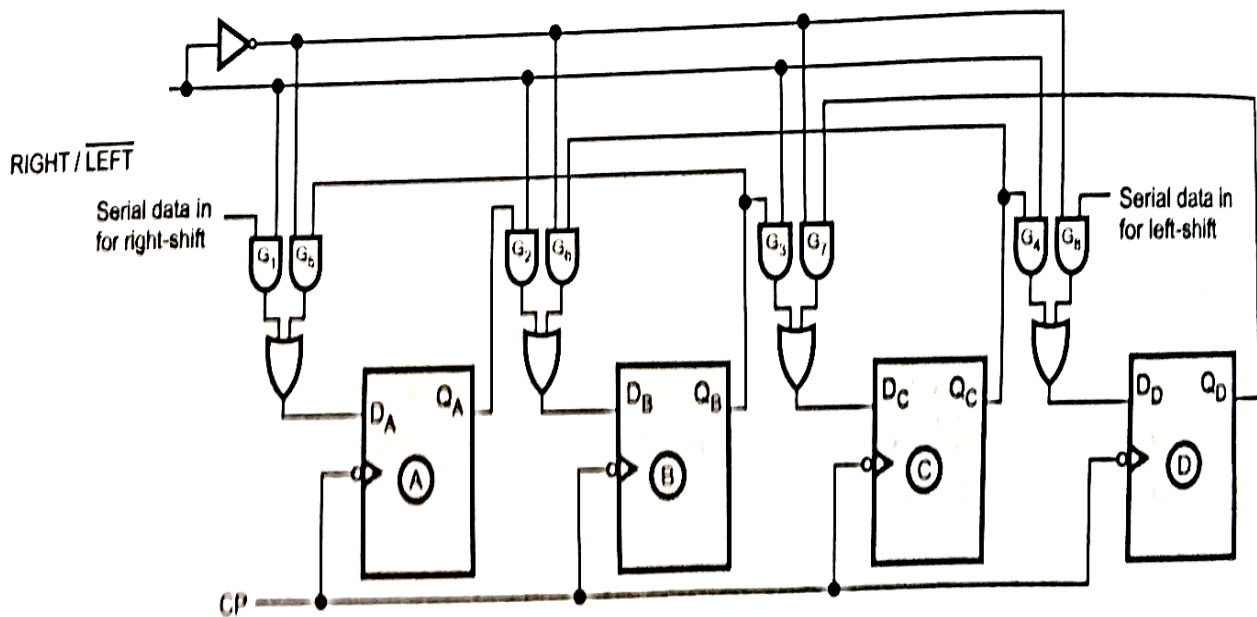

Figure 3.33: 4-bit bidirectional shift register
- Figure 3.33 illustrate a four-bit bidirectional register.